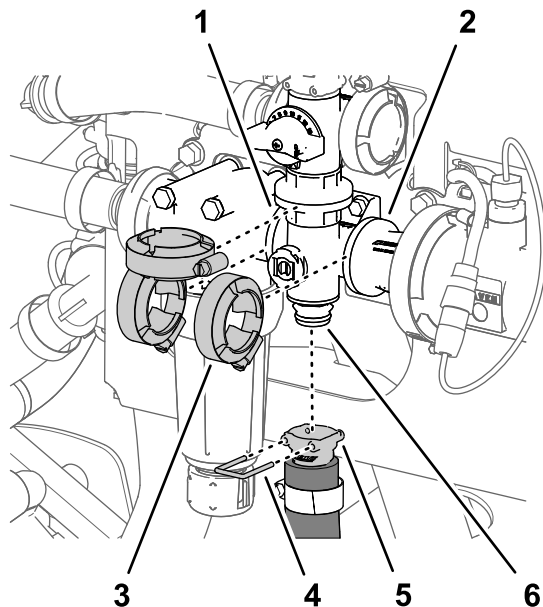

Figure 113
1. Remove the quick connect pin that secures the quick-connect coupler for the agitation hose to the manifold for the agitation valve (Figure 113).
2. Remove the 3 flange clamps that secure the agitation-valve manifold to the flanges of the pressure-filter head and the coupling adapter (Figure 113).